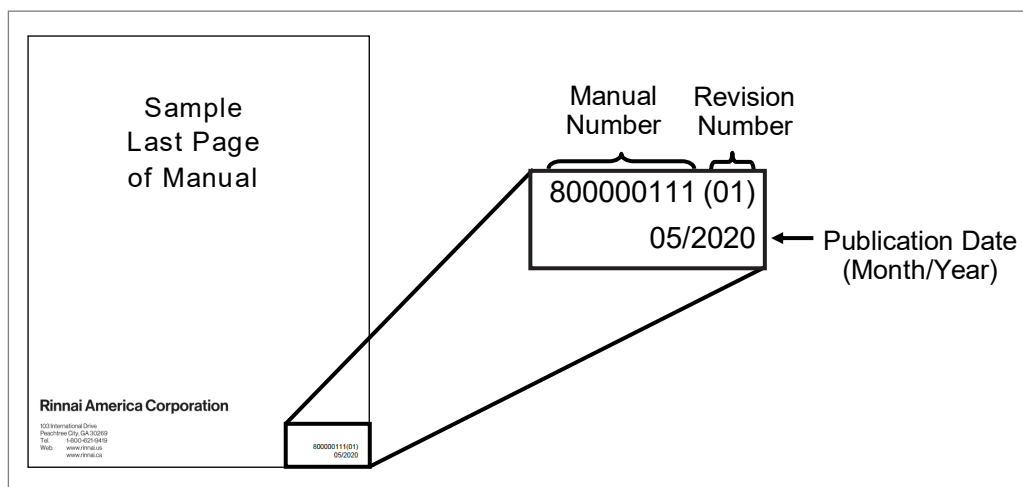

Fig 1. Manual and Revision Numbers on Last Page of Manual
- The manual and revision numbers are located on the last page of the manual in the bottom, right corner (Fig 1).